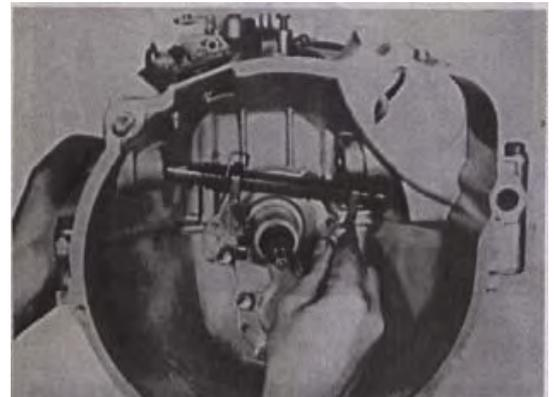

Fig 10-10
- (4) Remove clutch release shaft from transmission case. (FIG. 10-10)